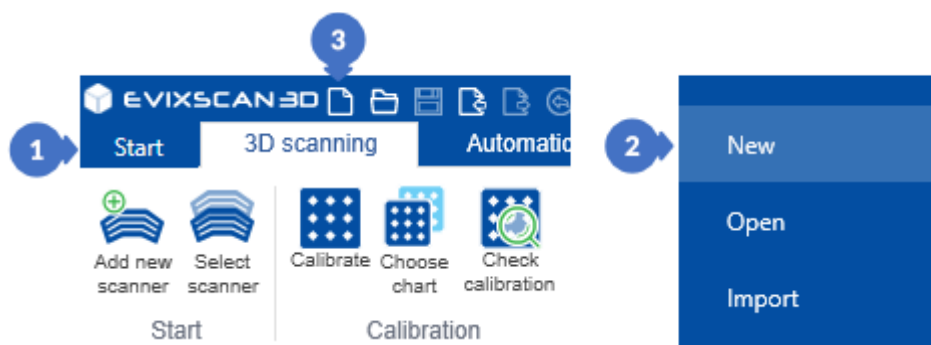
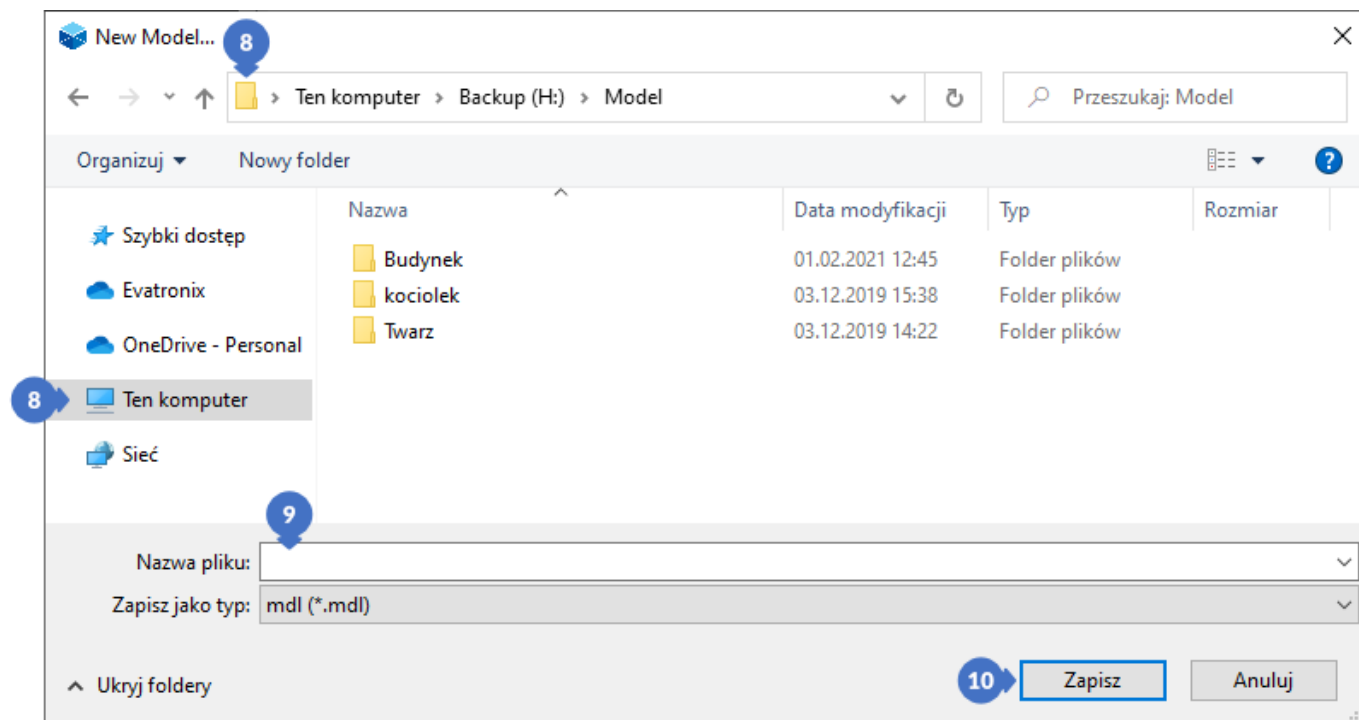

Figure 186. Create a new project
Figure 188. Creating new project – quick access *New*
The second way to create the project is the *New* button (3) (Figure 186) with a card icon from the quick access bar. This button opens a window in which you can select the path of the newly created project (8) (Figure 188), enter the name of the project (9) and then click the *Save* button (10) to create the new project. The project extension is a .mdl file.